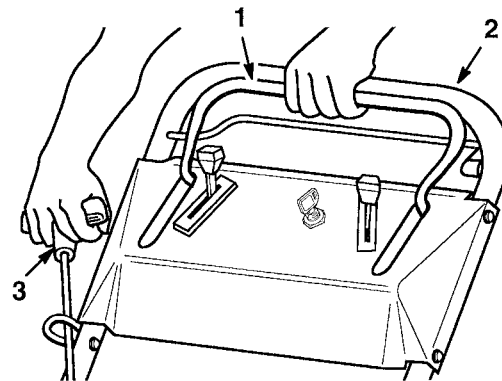

Figure 16
3. Hold blade control bail against upper handle (Fig. 16).
- B. MANUAL STARTING—Pull starter handle (Fig. 16) lightly until resistance is felt, then pull sharply. Let rope return to handle slowly.